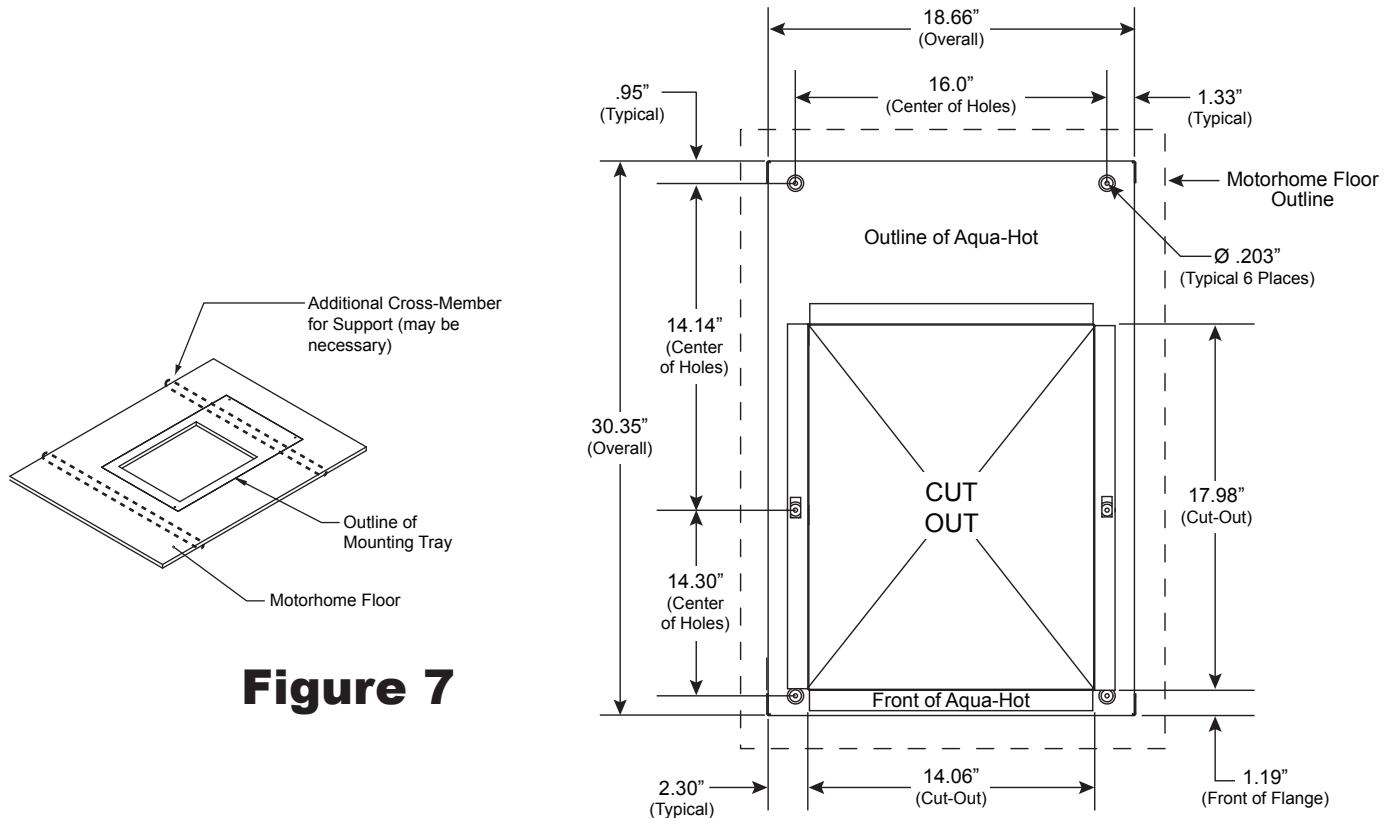

Figure 7
- Mounting tray information - Figure 7
2. Cut out the required mounting tray opening. Reference Figure 7.
3. Install the mounting tray flange into the cut-out opening. Reference Figure 7.
Be sure to provide an adequate support system for the mounting tray; if adequate support is not present, a cross-member will need to be installed. Reference Figure 7.
4. Insert a #10 machine screw into each of the embossed holes in the mounting tray (total of six required) and tighten to secure the mounting tray to the motorhome. Reference Figure 7.